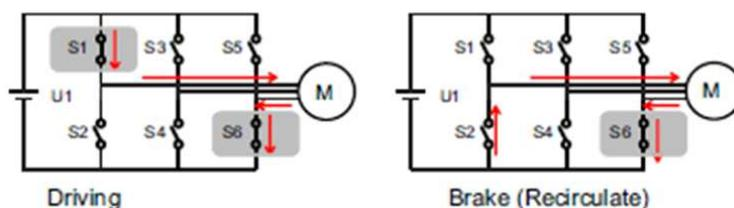
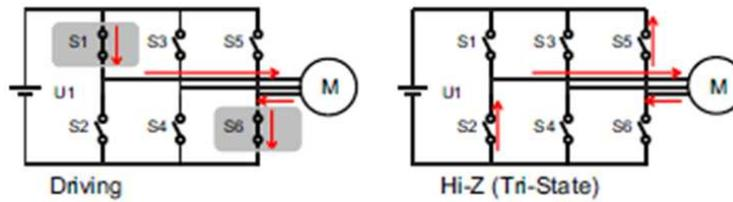

Figure 13. IPD Release Mode 0 – Brake Mode
Figure 14. IPD Release Mode 1 – Tri-State Mode
- Step 8. Unlock the shaft of the motor and turn ON the motor commutation again. Visually check whether the motor is vibrating or has reverse spin during IPD process. If there is no vibration or reverse spin during initial IPD step and motor is spinning in open loop, go to the next step. If there is unsatisfactory vibration of the motor or reverse spin during IPD stage, decrease 'IPD Current Threshold (A)' to a lower level and repeat **Step 1** through **Step 8**, except **Step 4**. (Since you are setting current threshold manually here onwards, do not follow guidance for calculating current threshold in **Step 4**.) If vibration or reverse spin is even present at a minimum current 0.4 A, **then the motor is not suitable to be used with the IPD algorithm. (Use Align and Go for initial startup.)**
- Step 9. Selection of 'IPD release mode' - brake or tristate There are two options available to stop DRV10983x/75 from driving voltage applied to the motor when the current threshold is reached. If IPDRIsMd = 0, **Brake** mode is selected. The low-side (S6) MOSFET remains on to allow the current to recirculate between the MOSFET (S6) and body diode (S2) (see Figure 13). If IPDRIsMd = 1, the **tri-state** mode is selected. Both the high-side (S1) and low-side (S6) MOSFETs are turned OFF and the current flies back across the body diodes into the power supply (see Figure 14). The tri-state mode has a faster settle-down time, but could result in a surge on VCC. Manage this with appropriate selection of either a clamp circuit or by providing sufficient capacitance between VCC and GND. If the voltage surge cannot be contained and if it is unacceptable for the application, then select **Brake** mode.